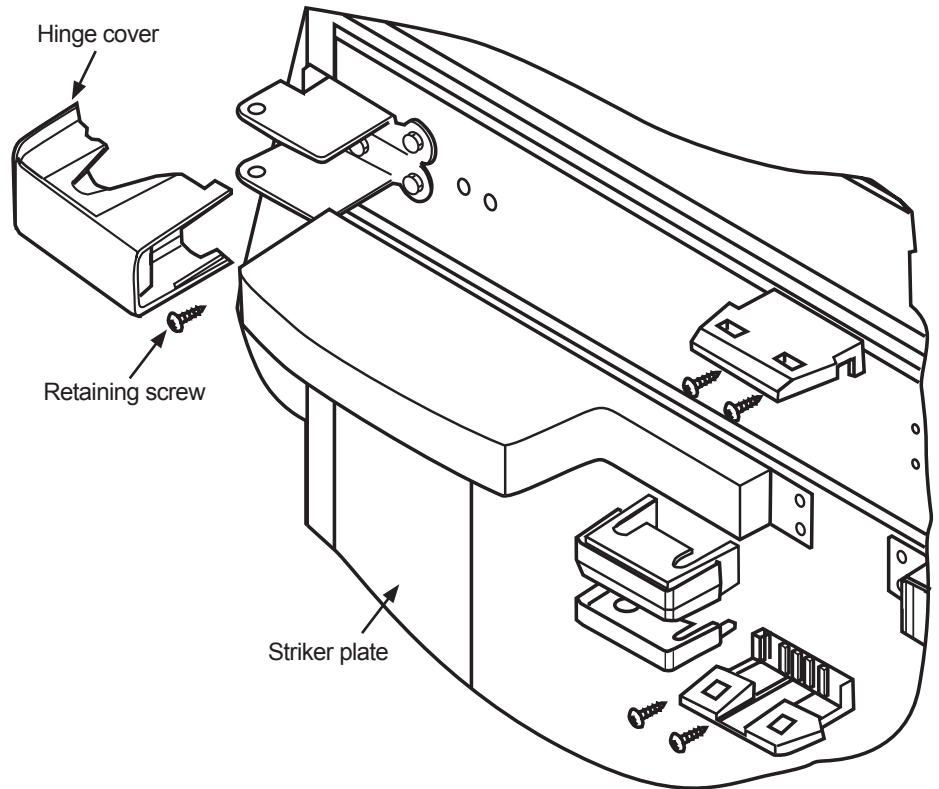

Figure. 10-10. — Cover, water dispenser.
4. Remove water dispenser cover. See Figure 10-10.